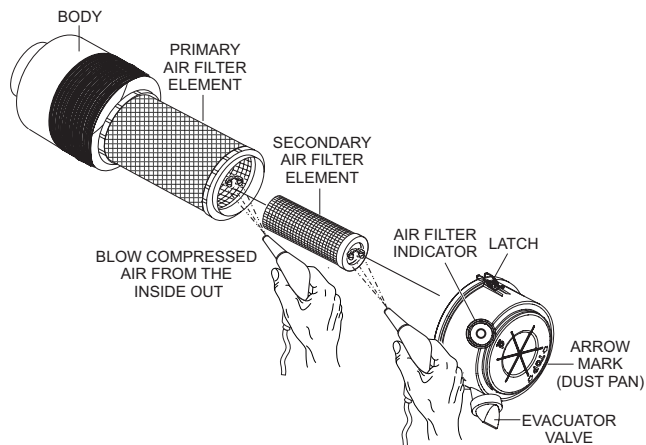

Figure 59. Engine Air Cleaner
This John Deere diesel engine is equipped with a replaceable, high-density, paper air cleaner element (Figure 59). The air cleaner is also equipped with an inner (secondary) element that is used as a backup filter should the primary element become damaged. Check the air cleaner daily or before starting the engine. Replace the air cleaner as needed.
1. Release the **latches** that secure the **air cleaner cover** to the **air cleaner body** (Figure 59).
2. Remove the air cleaner cover (Figure 59) and set it aside.
3. Remove both the primary and secondary **air cleaner elements** (Figure 59).
5. To clean the **primary element** (paper air filter) as shown in Figure 59, tap the filter element several times on a hard surface to remove dirt, or blow compressed air, not to exceed 30 psi (207 kPa, 2.1 kgf/cm2), through the filter element from the inside out.
8. Clean the inside of the air cleaner body (Figure 59).